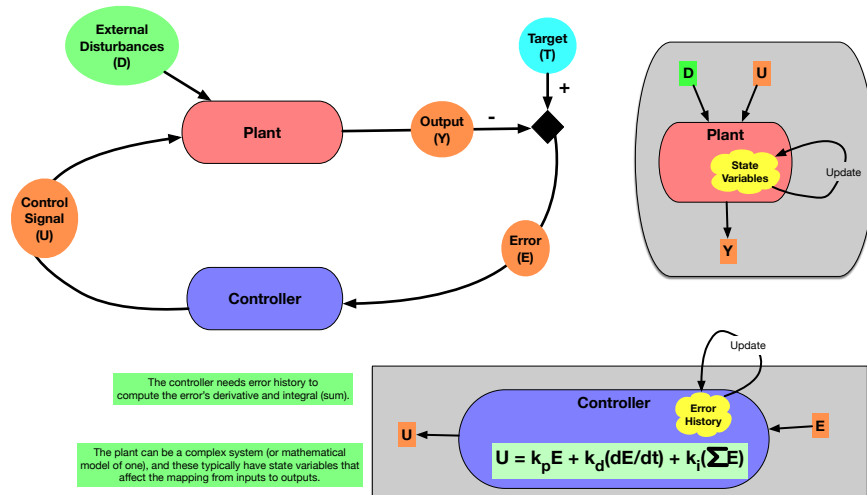

Figure 1: Generic Model of a standard 3-parameter (k_p, k_i, k_d) PID Controller
Figures 1 and 2 provide a high-level view of the system that you will design and implement for this project. Modularity is an essential aspect of this implementation: each plant must be its own object (in the object-oriented language of your choice) and must seamlessly integrate with each of the two controllers. See the section entitled *The Critical Divide* in code-expectations.pdf for further discussion of the separation between AI system and SimWorld, which, in this project, is a separation between the controller (whether traditional or AI-based) and the simulated plant. **Failure to display this modularity can result in significant point loss during project evaluation.**
This project explores two basic implementations of PID controllers. In the classic case (Figure 1) a PID controller contains three parameters (k_p, k_i, k_d) that combine to map the current error (E), its integral over time, and its derivative to a control output, U . In the more AI-driven approach (Figure 2), these same 3 error values are mapped to U via a neural network whose size can vary. In the neural network controller, the tuneable parameters are the weights and biases of the neurons, while in the classic PID model, only the 3 k parameters admit tuning.